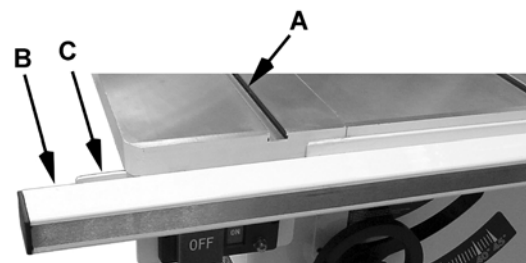

Figure 21
slot (A. Fig. 21), orient the *guide tube* (B) with respect to the *rail* (C) as shown in Figure 21.